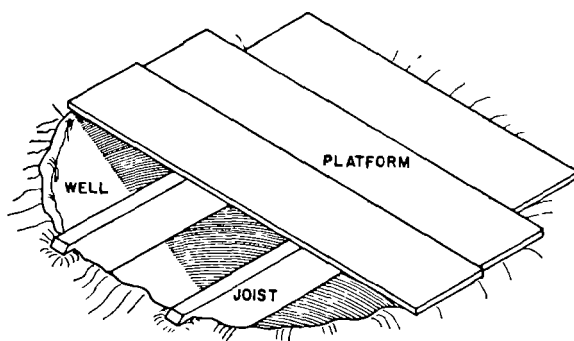

Figure 1. Platform Construction for Dug Wells
Cover the well opening with wooden planks as shown in Figure 1. If the well is over one (1) meter in diameter, supporting joists should be placed under the wooden platform. The top of the platform should be level with the surface of the surrounding earth.